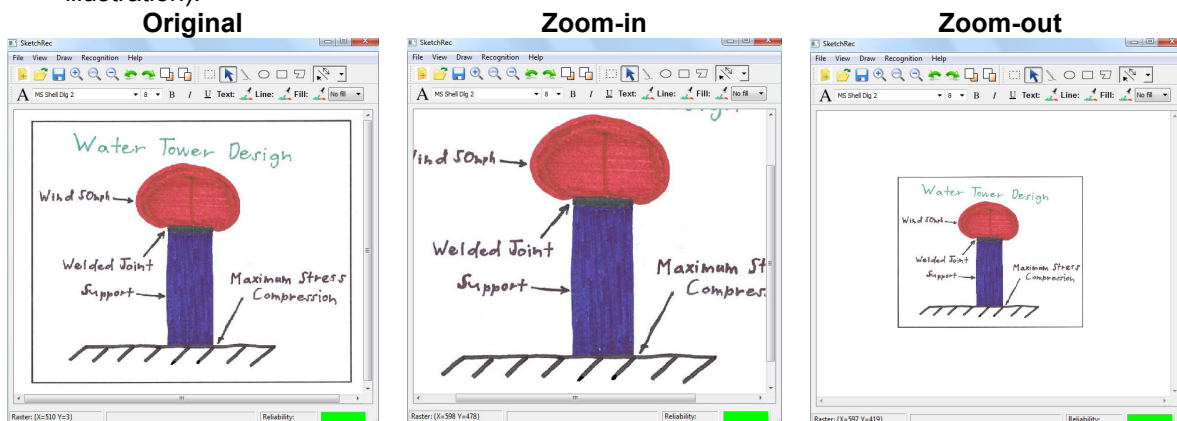

Figure 3: Convenient zooming using the mouse wheel.
- In addition to pressing 'Ctrl+' or 'Ctrl-' to activate the zooming, zooming can also be achieved – perhaps more conveniently - using the mouse wheel (refer to Figure 3 for an illustration).